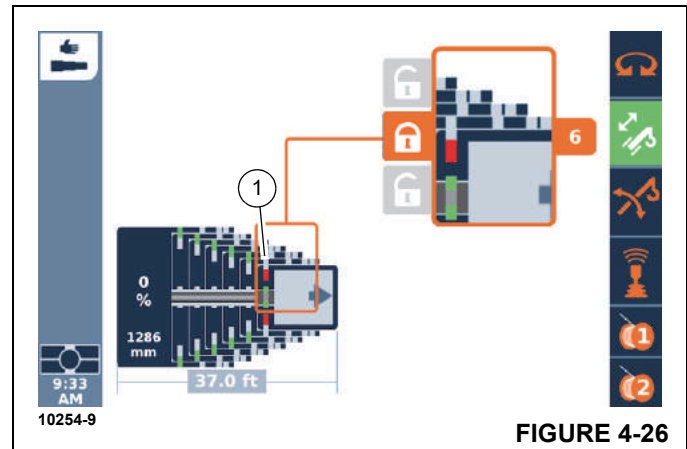

FIGURE 4-26
2. Confirm the selection – the locking pins will retract. Symbol (1, Figure 4-26) red.